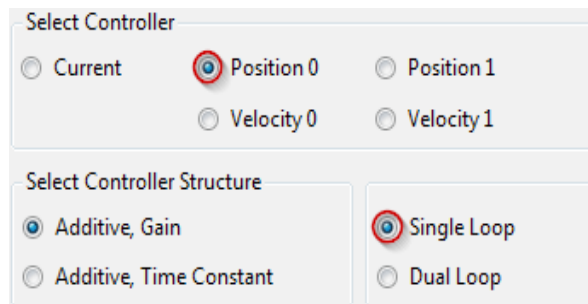

Figure 5: Setup for the tuning of the inner controller loop.
- Make sure, **Single Loop** is selected in the **Select Controller** panel (Figure 5).
If **Position 0** and **Single Loop** is selected as shown in Figure 5, the following transfer functions are displayed in the bode plot: